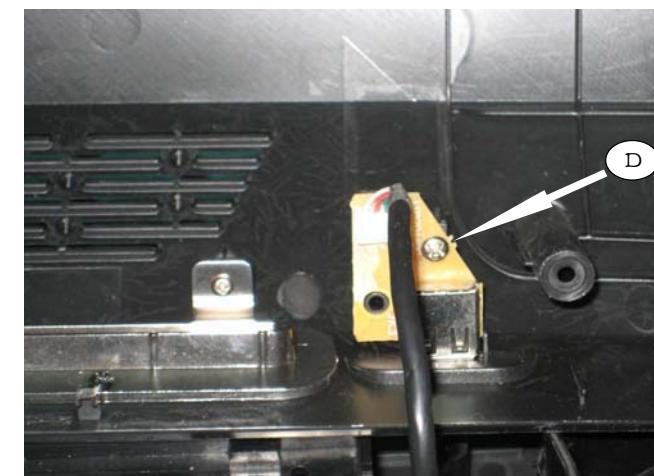

Figure 4
- 1) Loosen 1 screw "D" to detach USB Board as shown in figure 4.